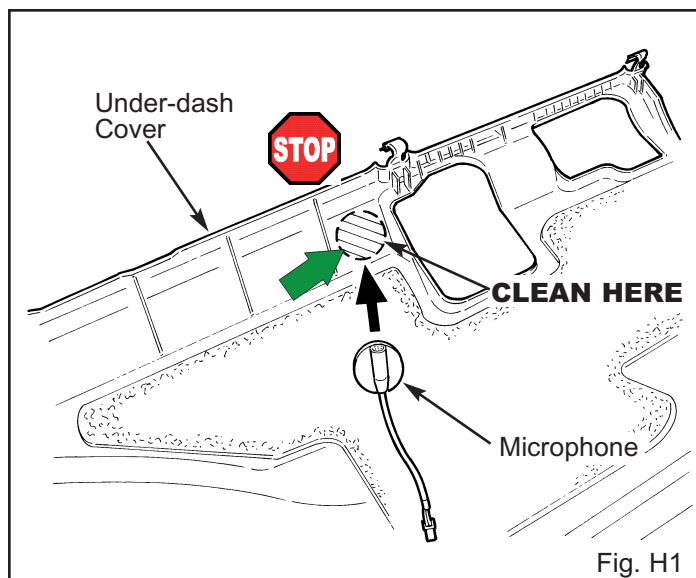

Fig. H1
- ➡ 1. Using 3M Prep Solvent -70 clean the area indicated on the back side of the under-dash cover. (Fig. H1)
2. Remove the backing sheet and secure the microphone to the back side of the under-dash cover. (Fig. H1)